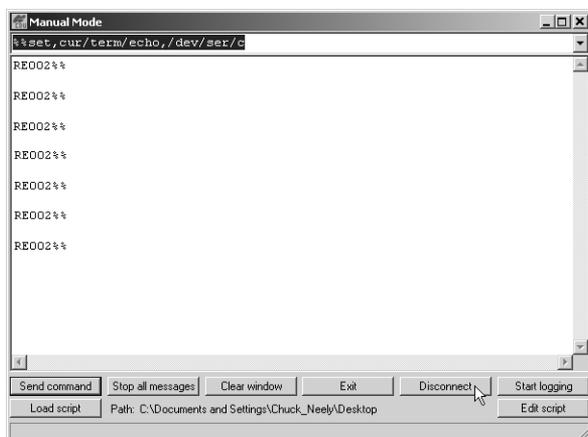

Figure 2-24. Manual Mode – Command Responses
The Manual Mode screen will show RE002%% in response to each of these commands. When finished, you should have seven responses (Figure 2-24 on page 2-29).
5. Click **Disconnect** (Figure 2-24).